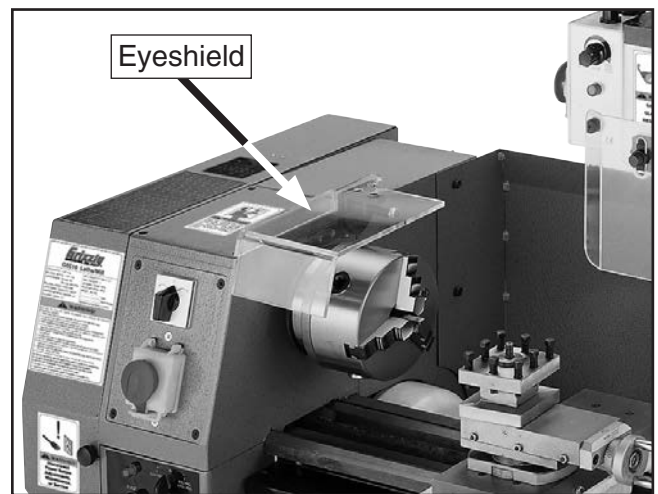

Figure 9. Eyeshield attached to lathe.
1. Attach the eyeshield, as shown in **Figure 9**, with the two screws that are already in the bracket.